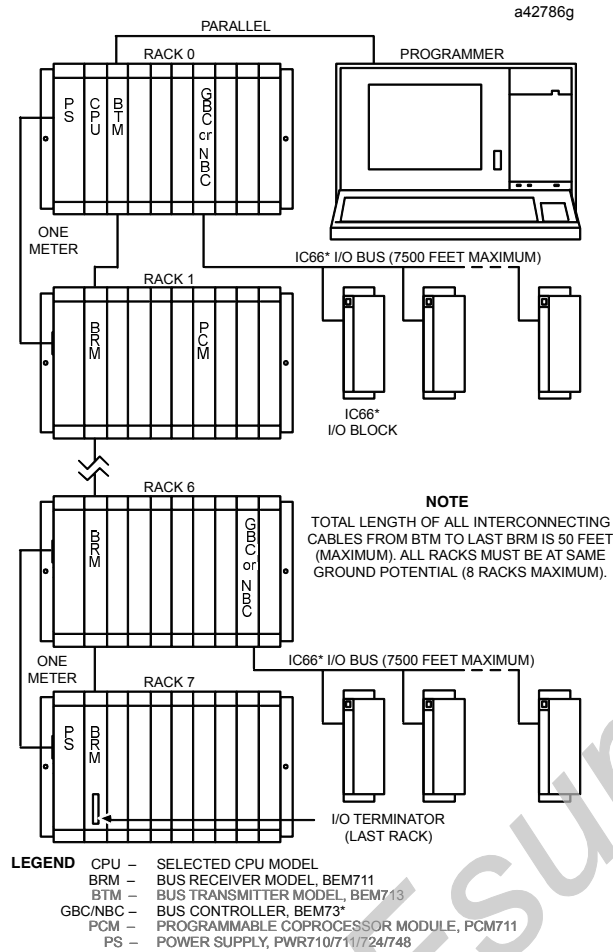

Figure 1. Typical PLC System Configuration Installation
- Install in slot 1 of rack 0. (See Figure 1)
For a parallel interface (MS-DOS programmer only) connect the programmer to the top port connector on the Bus Transmitter Module (IC697BEM713) as shown in Figure 1. Consult Reference 2 for a description of programming functions.